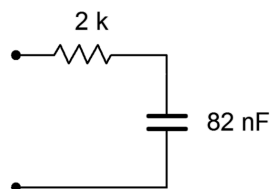

Figure 2.1
1. Determine the impedance of the circuit of Figure 2.1 for a 1 kHz sine.
2. Determine the impedance of the circuit of Figure 2.1 for a 5 kHz sine.